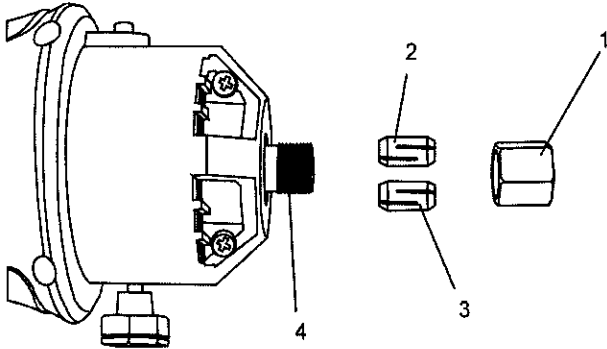

Fig. 3
The cutting bits for this tool are locked into place with a collet nut (1) and collet (see Fig. 3). The tool is assembled at the factory with a $\frac{1}{8}$ " collet (2) which is used to hold the cutting bit. An additional $\frac{1}{4}$ " collet (3) is supplied for holding SMALL router bits with a $\frac{1}{4}$ " shank.